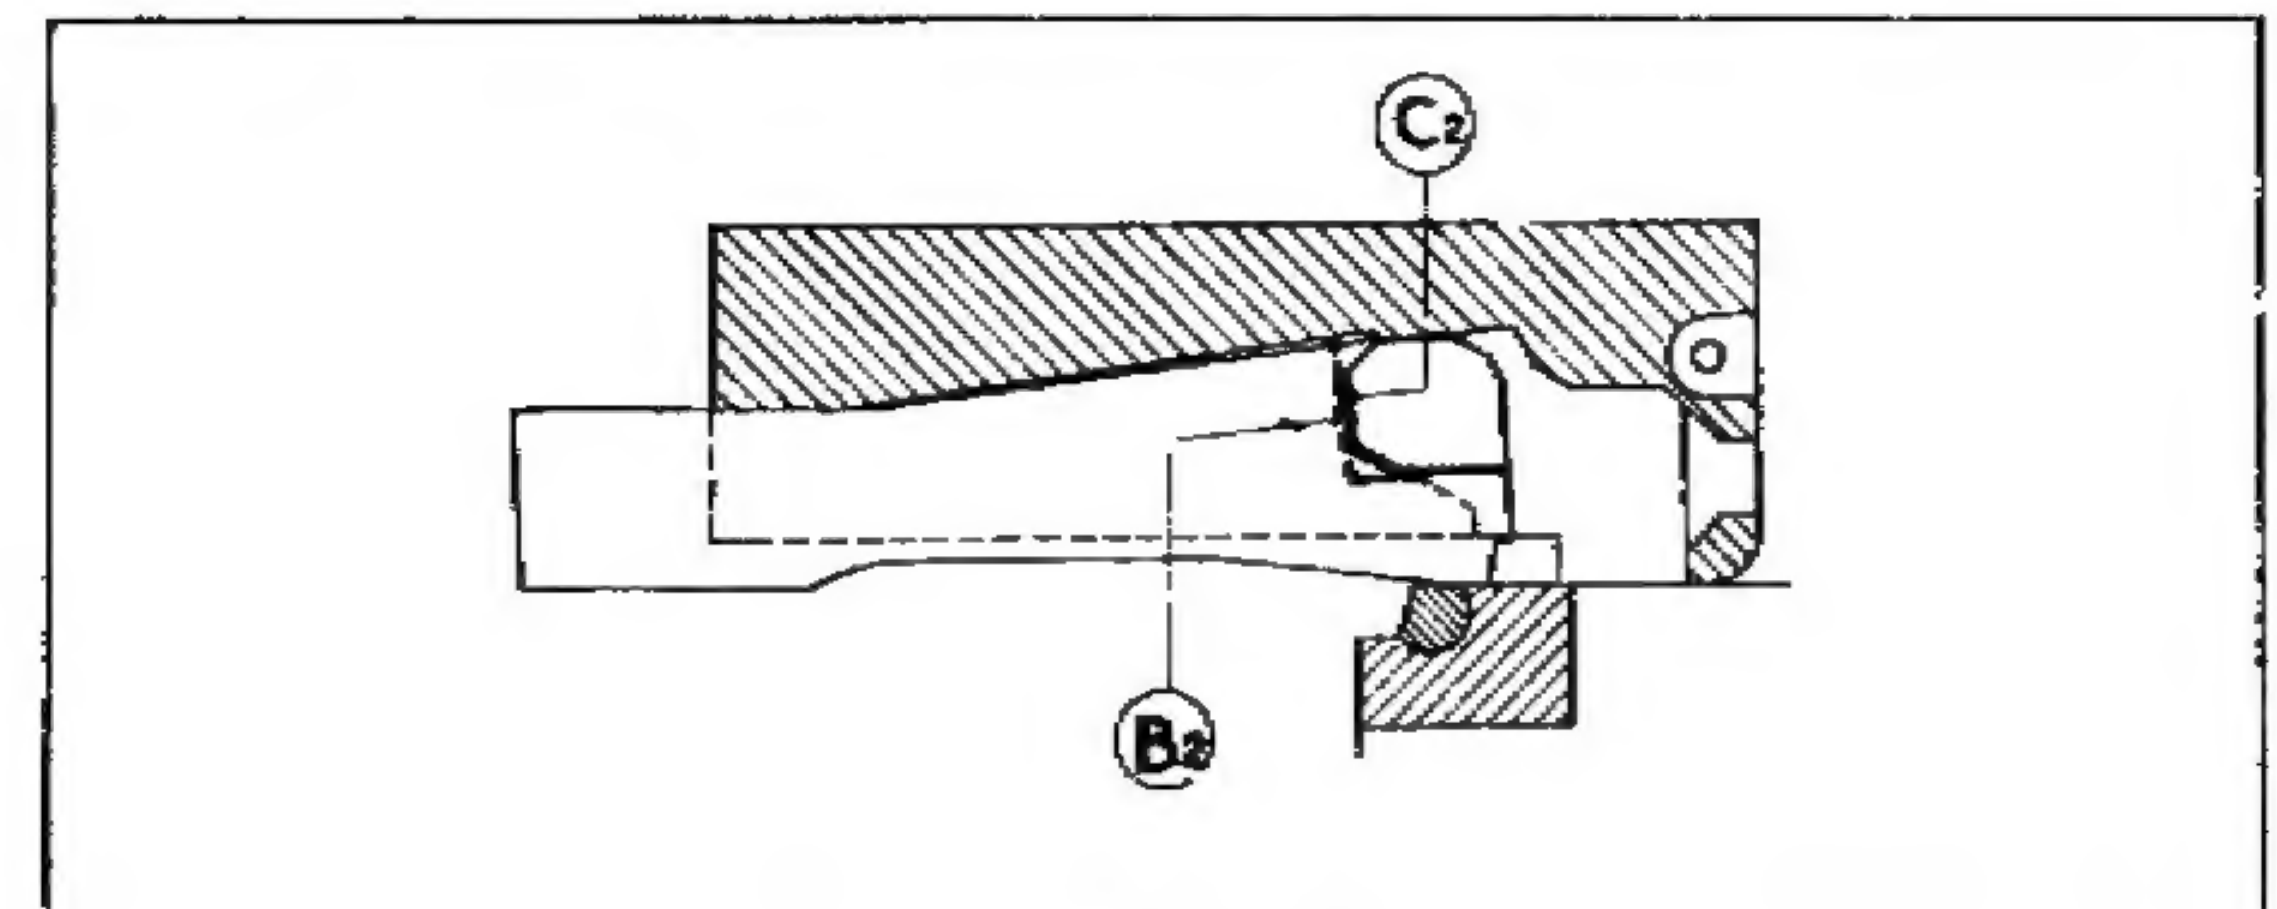

Fig. 8
- The shoulders of the slide (B2) engage those of the breech block (C2) (fig. 8) and the slide and breech block travel to the rear together.